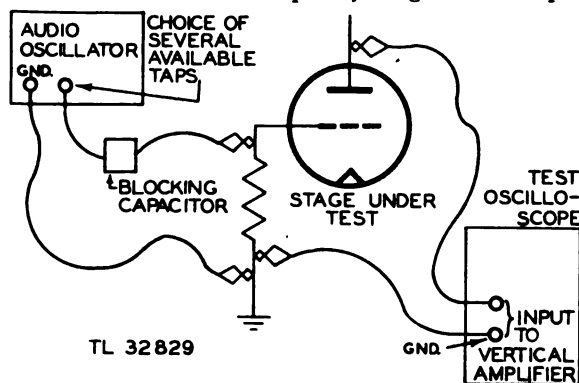

Figure 20. Test oscilloscope, signal output applied to vertical deflecting plates.
a. In view of the extremely wide field of application of cathode-ray oscilloscopes, only limited applications of these oscilloscopes to Radio Set SCR-268-(*) will be considered. In this connection it is important to observe waveforms. Figure 20 illustrates the method by which waveforms in the plate circuit of a tube can be taken. The frontispiece shows a signal generator and a test oscilloscope being used to align the i-f stages of a receiver. To make such observations, the waveform-voltage source of the points across which the voltage waveform is to be observed, is applied to the vertical deflecting plates and an internal sweep or voltage varying *linearly* with time is applied to the horizontal deflecting plate as a time base. The true waveform of the signal voltage can then be observed without distortion, inasmuch as none is introduced by the horizontal-deflection voltage. A thyratron gas tube is usually used to generate the linear or saw-tooth voltage which is used for the sweep voltage. This type of voltage is essential since it is necessary for the electron beam to sweep across the screen at a constant rate of speed and *instantaneously* return to the starting point. The time for the return of the electron beam may be referred to as the fly-back time. If the sweep is